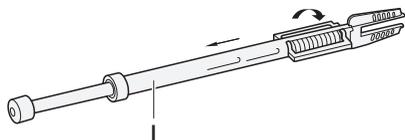

Fig. 8 Assembling double and single chisels
- ▶ Rotate cage I clockwise by 90°, see Fig. 8.